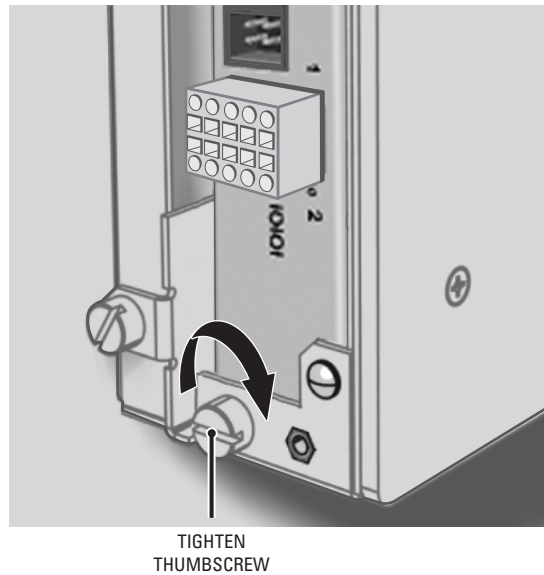

Figure 7. Tighten the Thumbscrew to Secure the Unit
3. Tighten the thumbscrew on the wall mount to secure the unit (refer to Figure 7).